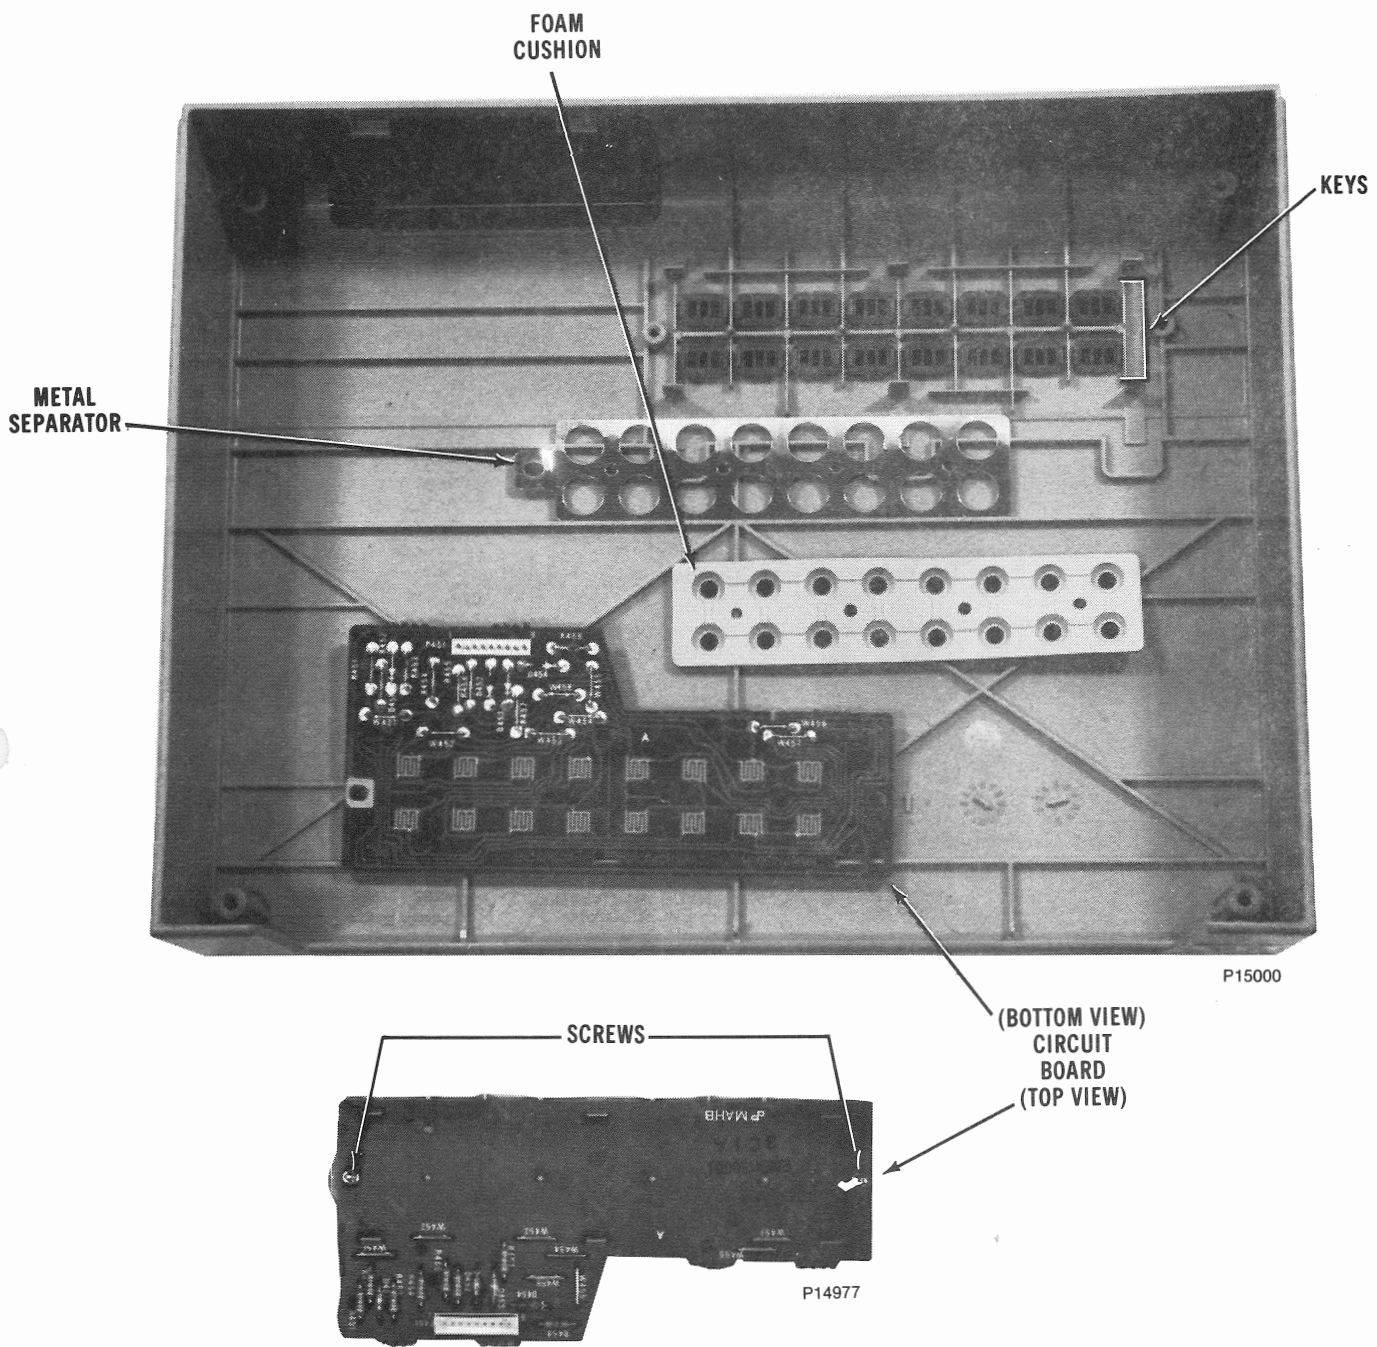

Figure 5-10. Keypad Circuit Board Removal
5.3.2.10 Keypad Circuit Board Removal (figure 5-10).
- Step 4. Carefully lift off the circuit board and install the new one. Figure 5-10 shows the parts arrangement of the keypad assembly.